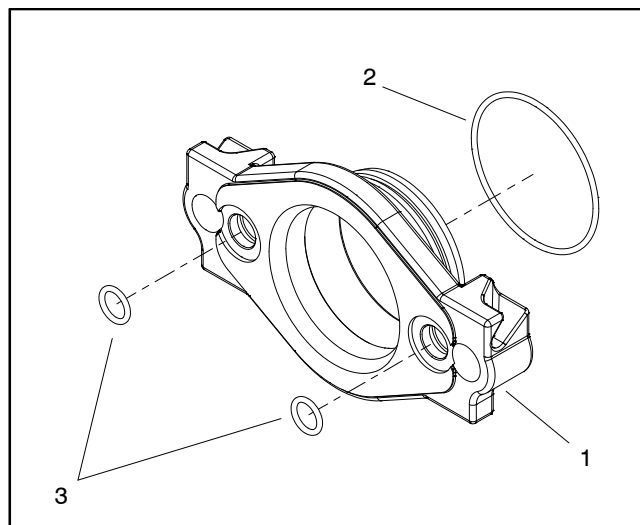

Figure 31
4. Remove O-rings as necessary from motor adapter (Fig. 31).